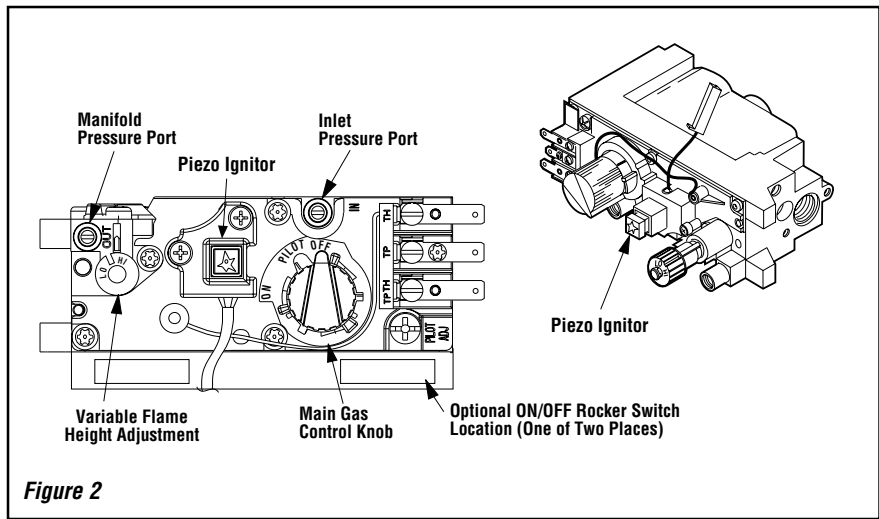

Figure 2
To light these appliances refer to the detailed lighting instructions found in both English and French on pages 10 and 11 of these instructions respectively. **Millivolt appliance lighting instructions may also be found on the pullout lighting instruction labels attached to the gas control valve.** Refer to *Figure 2* to locate the appropriate location for the piezo ignitor used with your appliance.
1. These appliances are equipped with a variable gas control valve. Flame height for these models may be adjusted through a range between fixed low and high settings, alternately, while the appliance is in operation. Adjust the flame height as desired after lighting the appliance by rotating the variable adjustment control knob located on the front of the valve (refer to *Figure 2*).